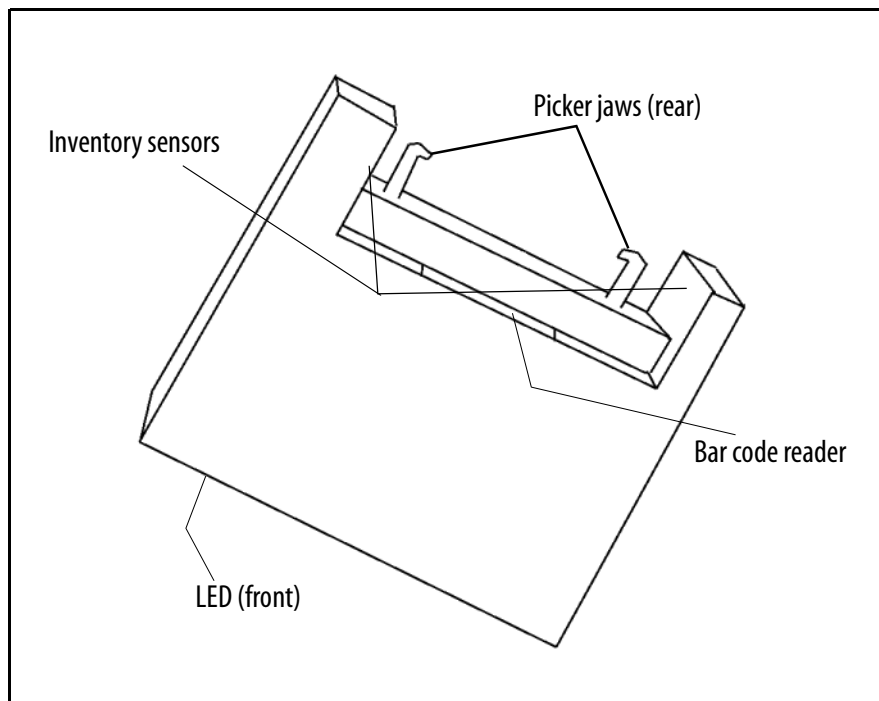

Figure 7-2 *Robotic tape picker (shown removed for clarity).*
- Use compressed air to clean out the inventory sensors on the robotic tape picker (Figure 7-2).
- Use a soft cloth to clean the bar code scanner window on the robotic tape picker (Figure 7-2).